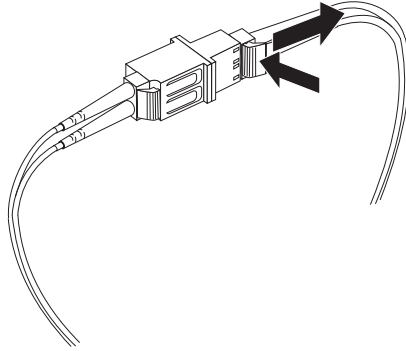

Figure 27. Removing the LC-LC Fibre Channel cable from an LC-SC Fibre Channel cable adapter
2. Carefully pull on the connector to remove it. Make sure you grasp the connector and not the cable when removing the LC-LC cable from the LC-SC cable adapter as shown in Figure 27.